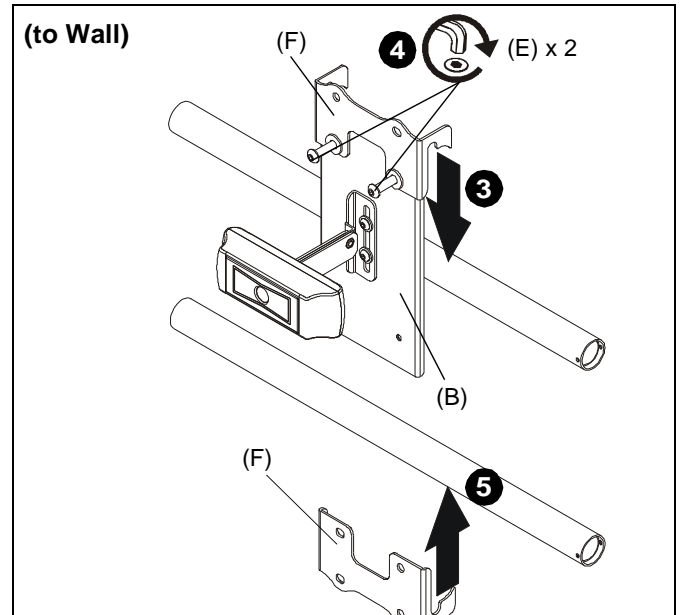

Figure 7
3. Place center holder (F) on top of wall mount rail. (See Figure 7)
4. Tighten two screws (E) holding center holder (F) to center plate (B). (See Figure 7)
5. Place second center holder (F) underneath wall mount rail so that mounting holes are aligned. (See Figure 7)